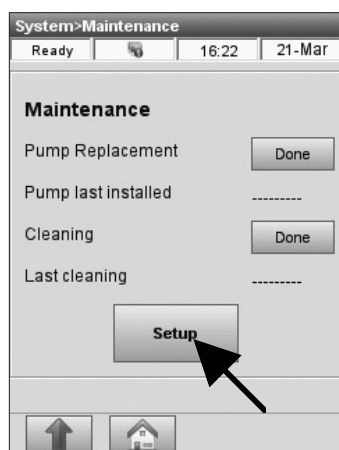

Fig. 7-18 Maintenance Setup
3. In the **<Maintenance>** menu (Fig. 7-18), press **<Setup>**.
5. After you replace the peristaltic pump, go to the **<Maintenance>** screen (Fig. 7-18) and press **Done** next to **<Pump Replacement>**.